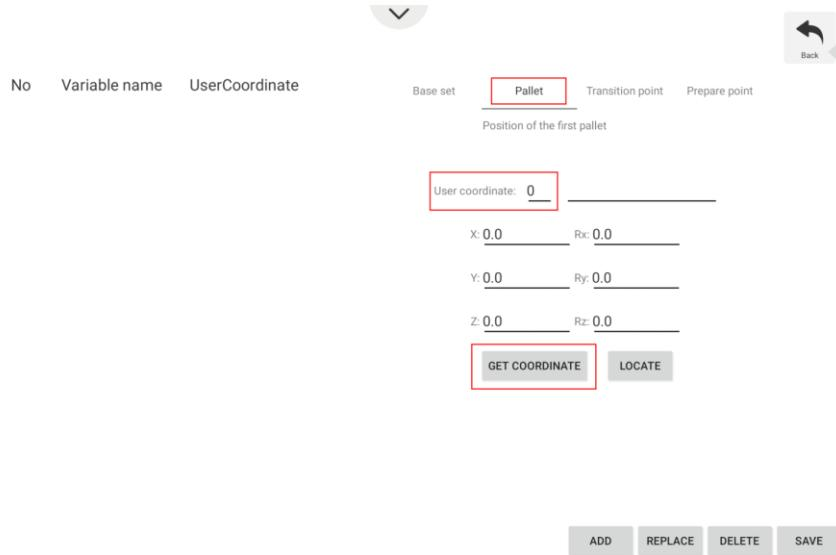

Figure 4.6 Teach the first stack position
**Step 3** Jog the robot to the first stack position and click **GET COORDINATE** on the **Pallet** tab, as shown in Figure 4.6.